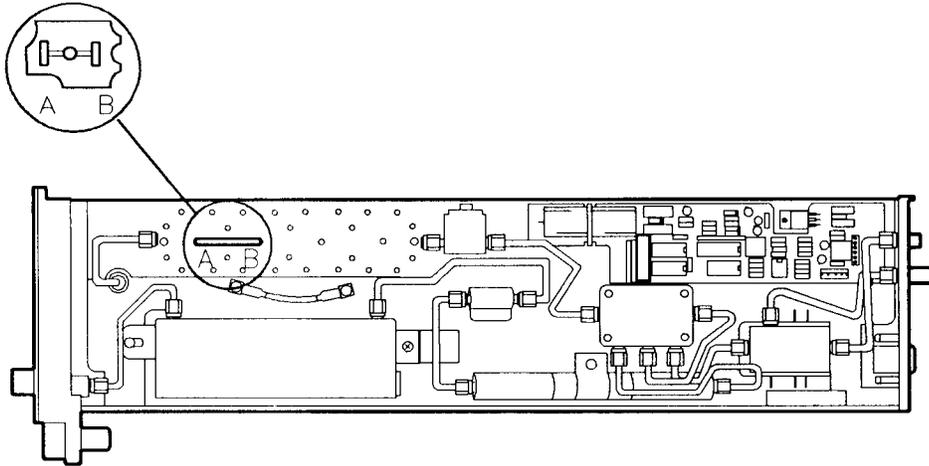

Figure 6-6. A5 Second Mixer Replacement
4. Carefully lift the A5 Second Mixer board assembly connectors (A and B) from the two connector pins extending from the module chassis. See Figure 6-6.
**Note** Make sure the A5 Second Mixer board assembly is oriented correctly. See Figure 6-6.
5. Reinstall the board assembly to the connector pins as shown in Figure 6-6.